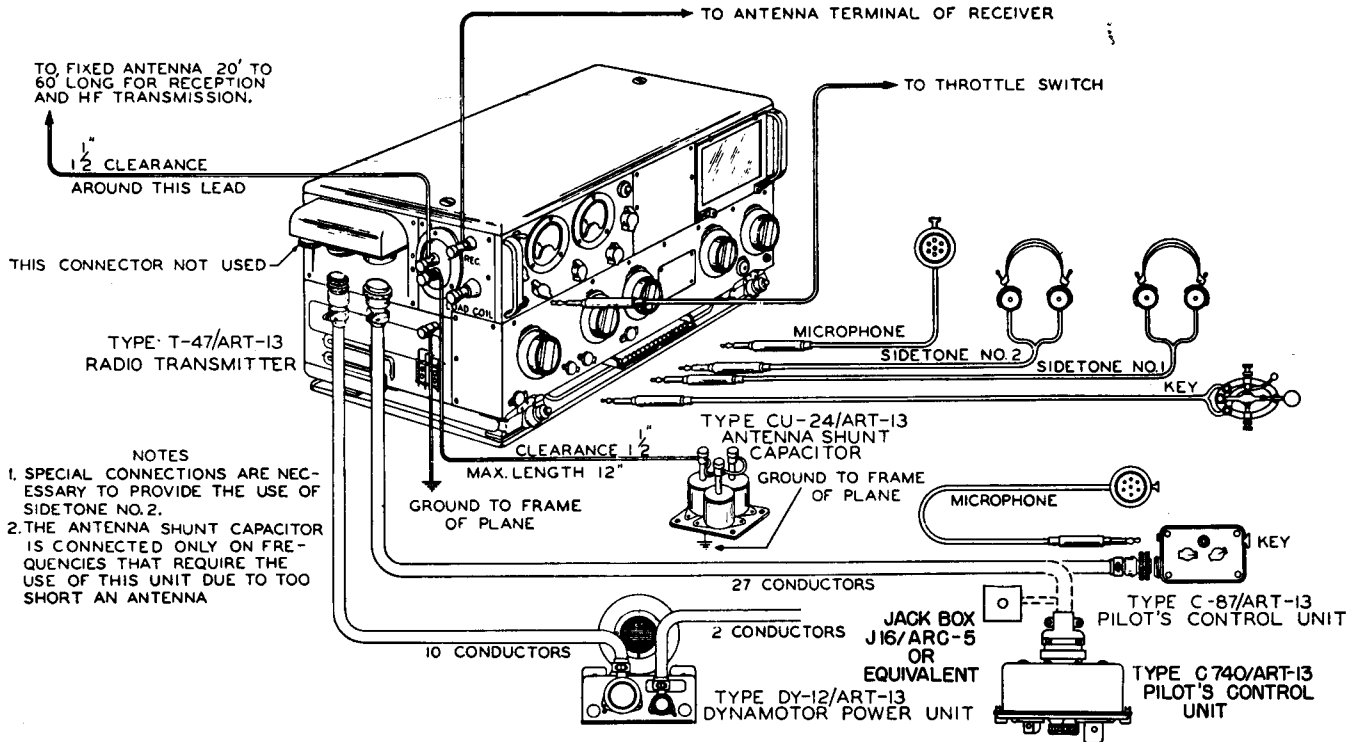
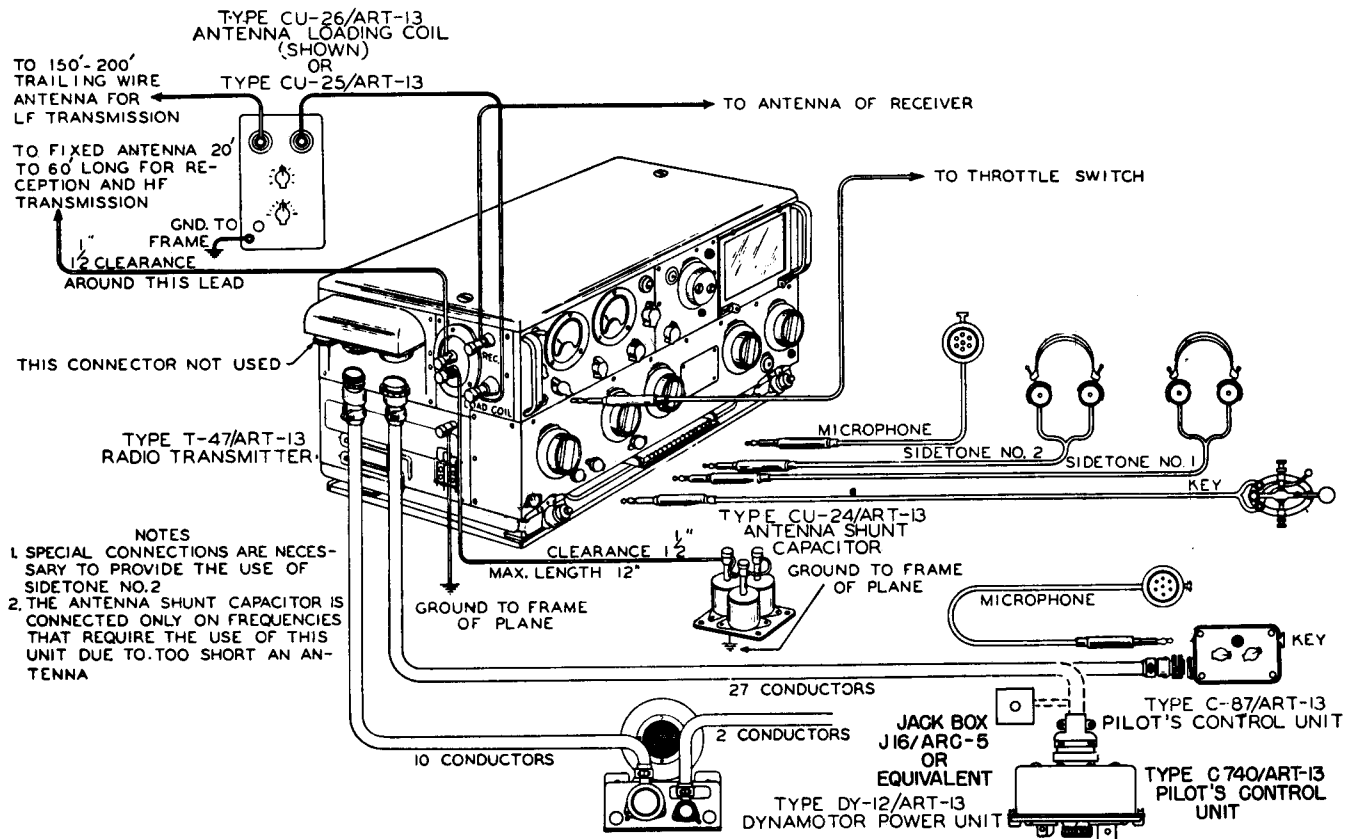

Figure 2-1. Model AN/ART-13 High Frequency Installation Diagram
Figure 2-2. Model AN/ART-13 Installation Diagram Including Special Low Frequency Units
(1) Figure 2-2. shows an AN/ART-13 installation with all of the accessories necessary for transmission on any frequency within the frequency range of the transmitter and with the transmitter control from either the transmitter panel or from a remote position. If the fixed antenna has sufficient capacity the Type CU-24/ART-13 Antenna Shunt Capacitor Unit may be omitted from the installation. Figure 2-1. shows a high frequency AN/ART-13 installation which may be used if low frequency (200 kc to 1500 kc) emission is not required.
(2) The first step in preparing the transmitter for installation is to check the vacuum tubes and calibration crystal for placement in the proper sockets. All tubes and crystal unit can be installed from the top of the transmitter unit. To remove the transmitter cabinet cover, loosen the cover holddown screws and lift the cover upward.
(2) Cut the wires to the proper length for the installation involved. Allow enough additional length for each wire so that no wire is tight enough to interfere with the action of the shockmounts or to damage the connectors.
i. CONNECTIONS.—After all units have been mounted, the installation may be completed by making the power, inter-unit and antenna connections. Refer to the installation diagrams, figure 2-1 and figure 2-2, page 2-0.